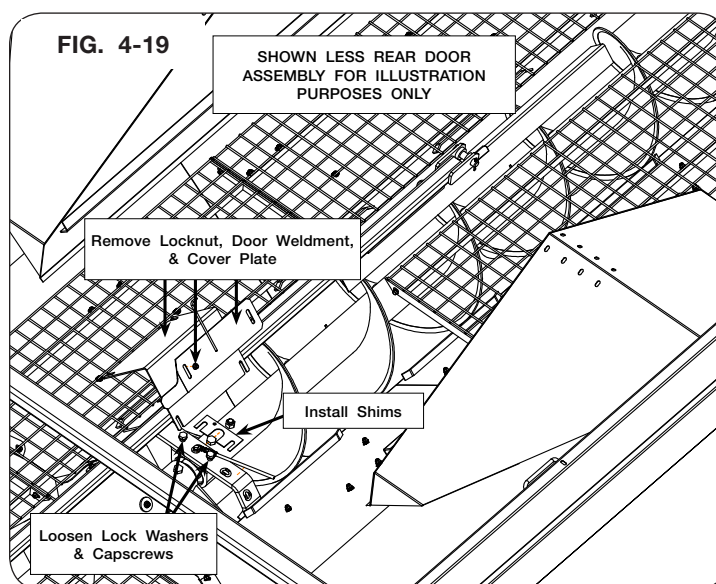

FIG. 4-19
10. Remove the baffle weldment on the auger tent at the opening above the hanger bearing. (FIG. 4-19)
11. Loosen the two 5/8"x2" capscrews. It is not necessary to remove this hardware if two or fewer shims are being installed. Install the shims from the backside between the bearing and the bracket as shown in FIG. 4-19.